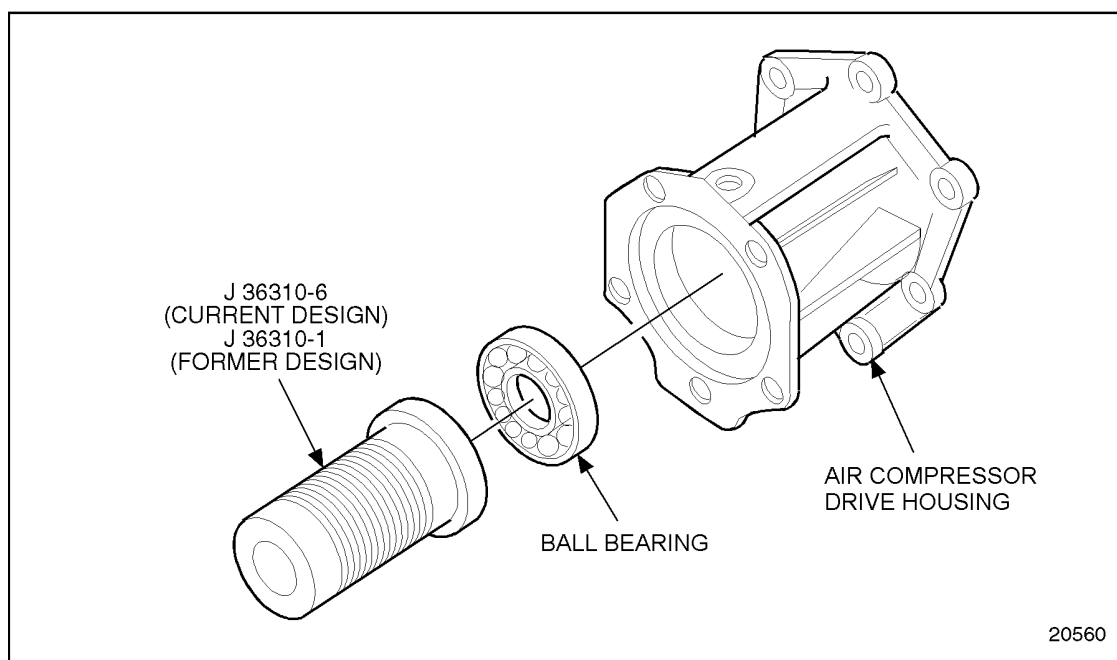

Figure 10-20 Ball Bearing Installation
3. Press on the outer race of the bearing only. See Figure 10-20.